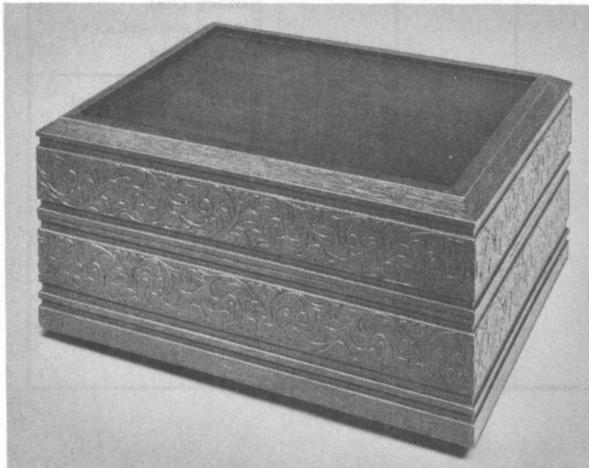

Fig. 1—881A100 or 2881A100 DESIGN LINE Telephone Set With Cover Closed
1.01 This section provides identification, installation, and connection information for the 881A100 (MD), 881B100 (MD), 881C100, 881A101 (MD), 881B101 (MD), 881C101, 881B110 (MD), 881C110, 2881A100 (MD), 2881B100 (MD), 2881C100, 2881A101 (MD), 2881B101 (MD), 2881C101, 2881B110 (MD), or 2881C110 DESIGNLINE\* telephone (*Chestphone*\*\*\*) sets (Fig. 1 and 2).